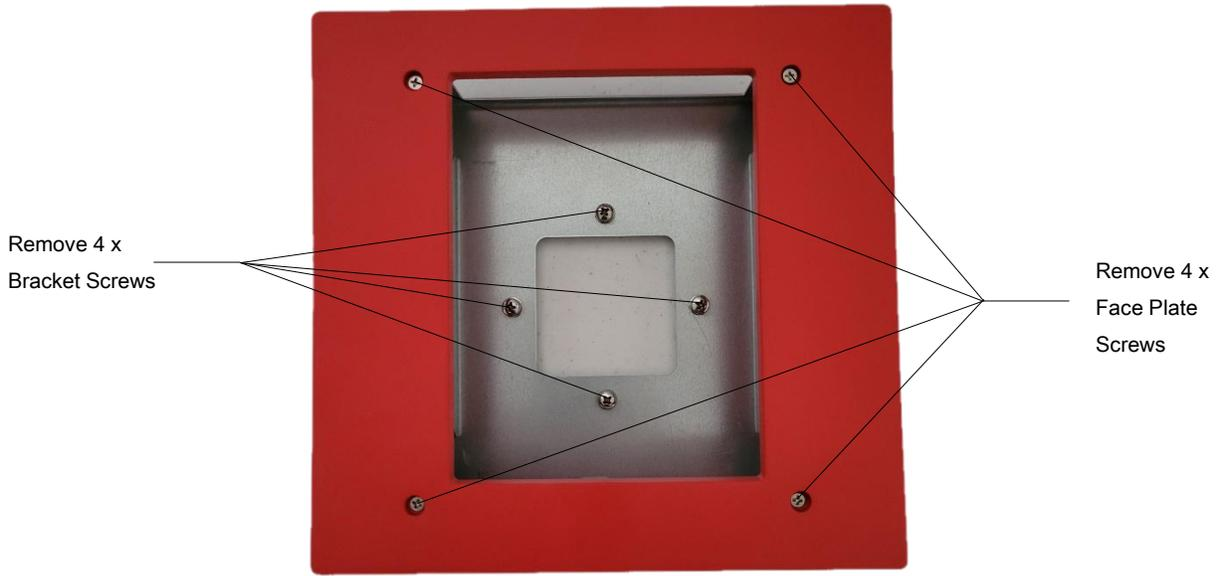

Figure 28: APV3-BDA - Flush Mount Kit Face Plate and Bracket Screw Removal
Follow the below instructions, Figures 28 through 31, to flush mount the APV3-BDA:
- Remove the (4) Philips head screws holding the faceplate to the mounting bracket. Do not discard screws as these will be used to reinstall the face plate. Remove the face plate.
- Remove the (4) screws that are attached to the mounting bracket from the factory. These screws will be used in the next step to attach the APV3-BDA standard mounting bracket to the flush mount bracket. See Figure 28 below.